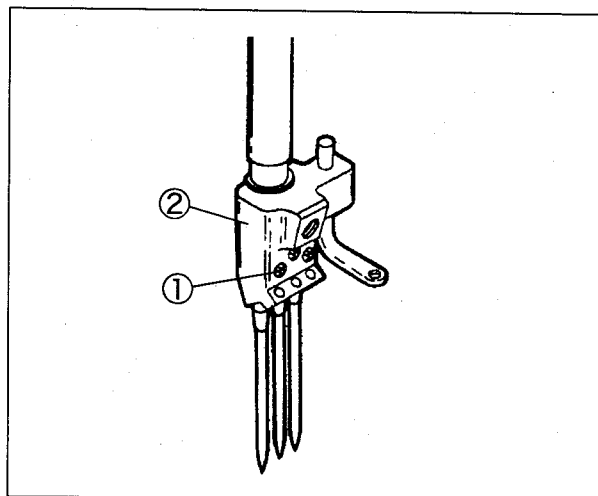
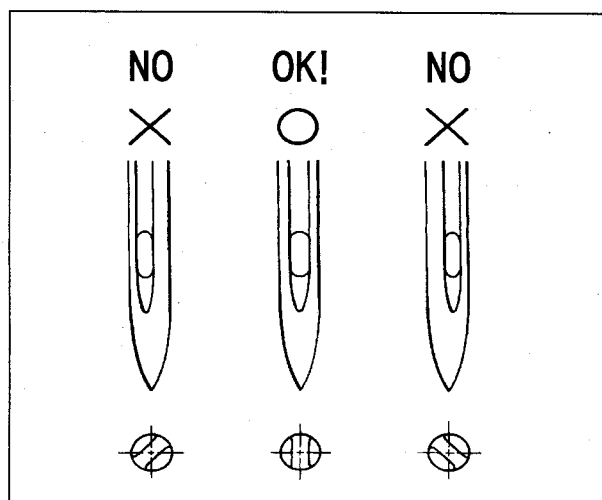

Fig. 22
Fig. 23
- (1) Loosen the screws ① with a screwdriver. (Fig. 22)
- (2) Remove an old needle with a pair of tweezers.
- (3) Insert a new needle into the needle clamp ② as far as it will go with facing its scarf to the right back. (Figs. 23 and 24)
- (4) Tighten the screws ① with a screwdriver.